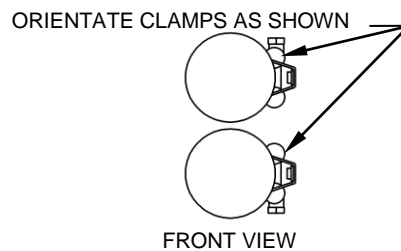

FIGURE 2
12. Remove the muffler assembly from the box and slide two supplied 27-61MSC clamps onto the back muffler tubes. Refer to figure 2 for alignment.
16. To install the front heatshield, first slide the rear portion of the heatshield over the muffler, continue to slowly slide it forward pushing the front of the shield gently into place between the frame and motor (Hint: Spread the hose clamps apart slightly to make it easier to slide them over the muffler assembly and head pipes). Make sure the muffler clamps don't interfere with the heatshields and are aligned as shown in figure 2. Snug the heatshield clamps but **DO NOT TIGHTEN.**